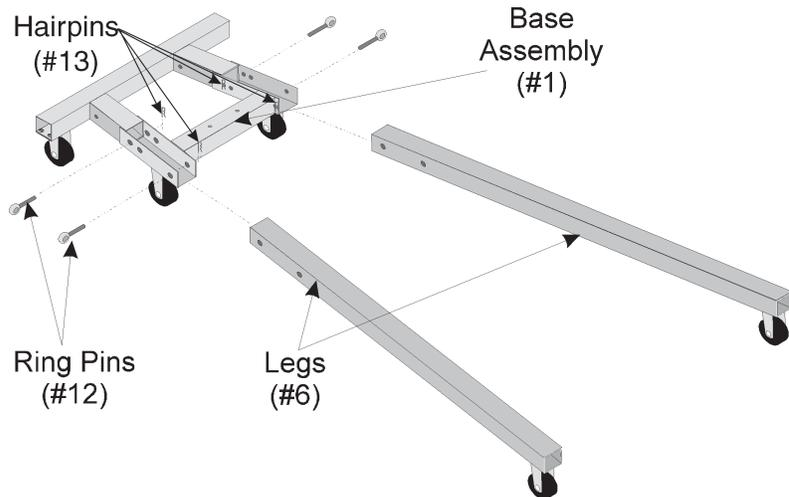

Figure 1 — Assembling Legs
Step 1: Using four RING PINS (12), assemble the LEGS (6) to the BASE ASSEMBLY (1) - see Figure 1.